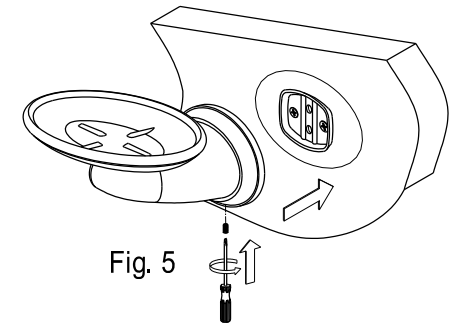

Fig. 5
- Step 6. Place the unit, with the small hole of cover plate underneath, over the mounting plate by tightening slotted set screw with flat head screwdriver until the base is tightly fixed. (Fig.5)